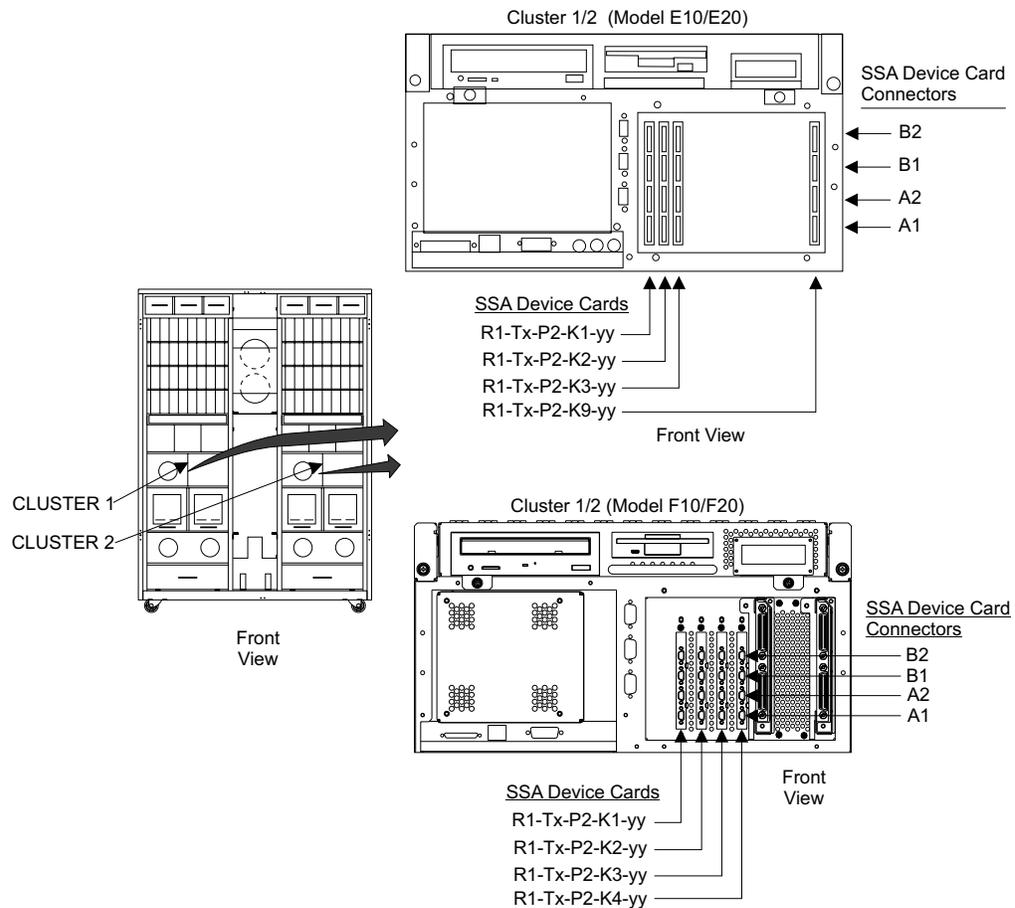

Figure 343. SSA Device Card Removal (S008801q)
- ___ 1. Open the front cover of the 2105 Model Exx/Fxx rack and locate the cluster bay with the cluster bay SSA device card you are removing the card from, see Figure 343 on page 352: